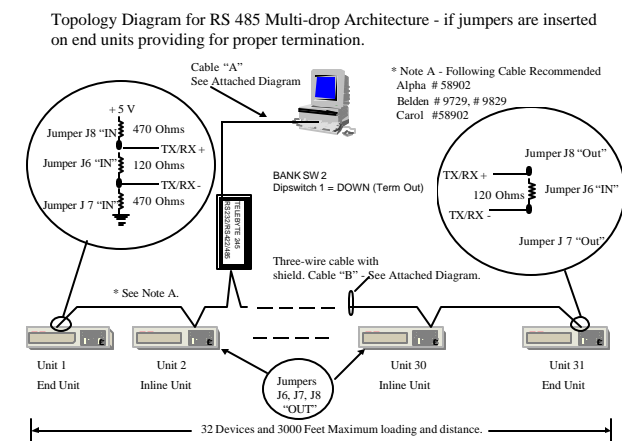
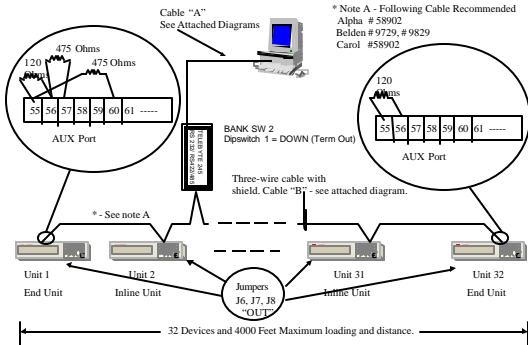
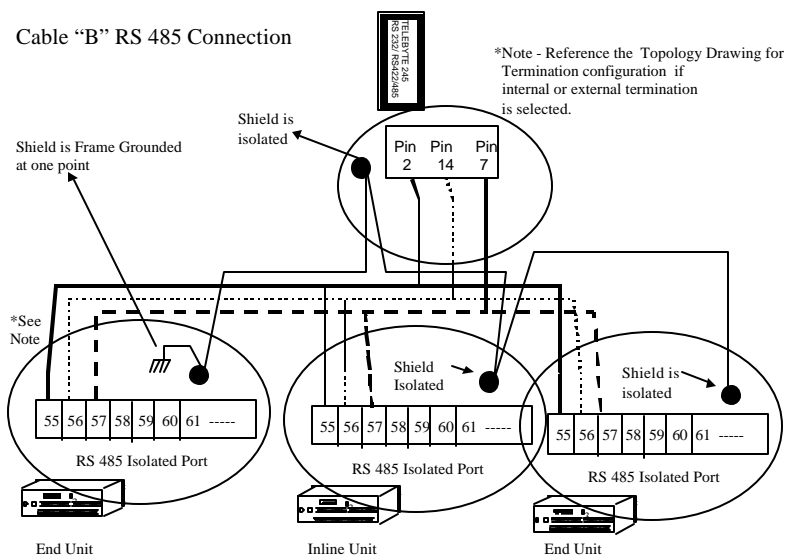

Figure 4 – RS 485 2 WIRE TERMINATION WITH THE RS 232/485 Converter INLINE and ABB Protective Relays At End Of Line Locations.
Figure 6 – Termination Using External Resistors And The Telebyte Converter Being An “In-Line” Unit.
Figure 8 – Conductor Connectivity Diagram For The 2000R Products And The Telebyte Converter “Inline”
1. In attachment to ABB relays in a Utility installation, one must remember to use a cable with 3 wires and a shield. Refer to Figures 4 through 7 for ABB recommended cables.
RS 485 2 Wire connection diagrams are referenced in Figures 4 through 7. Figures 4 and 5 use the internal resistors within the DPU, GPU, TPU and MSOC units. Figures 6 and 7 illustrate an alternate method of using external resistors to provide biasing and line termination.
One should recognize that termination is at both extreme ends of the cable. Also Figures 4 and 5 have the cable daisy-chained, thus minimizing communication signal reflections.
Figures 4 through 7 illustrate the addition of resistors between the TX/RX (+) line and +V, and TX/RX (-) line and ground. These resistors are called bias resistors. Bias resistors are inserted at one node only, preferably at one extreme end of the network.
Figures 8 and 9 illustrate the individual conductor connectivity for attaching the ABB protective relays in the DPU/TPU/2000 and the DPU/TPU/GPU 2000R. It is important to note that Figures 8 and 9 illustrate only the attachment of each device terminal. EACH NODE MUST BE DAISY-CHAINED AS ILLUSTRATED IN FIGURES 4 THROUGH 7.